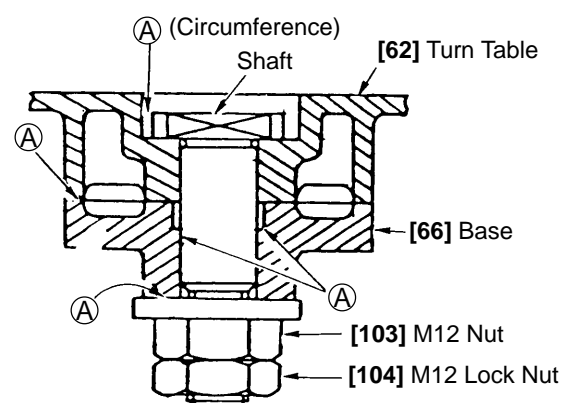

Fig. 8
#### (5) Assembly of the Turn Table: (See Fig. 8)
When assembling the Turn Table [62] and the Base Assembly [66], mutually tighten the M12 Nut [103] and the M12 Lock Nut [104] so that the turn table turns smoothly without excessive play or vibration. During assembly, liberally apply grease (Hitachi Motor Grease, Code No. 930035, is recommended) on the portions marked (A) in Fig. 8.